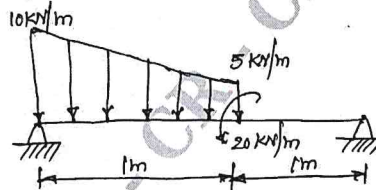

Fig.Q6(a)
- 6 a. For the beam loaded as shown in Fig.Q6(a), determine deflection and shape. Also find the shear force and BM. Take  $E = 70 \text{ GPa}$  and  $I = 4 \times 10^{-6} \text{ m}^4$ .